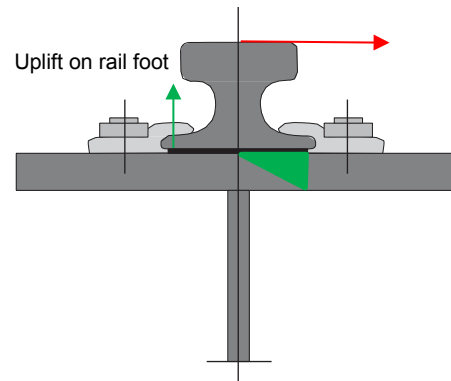

Figure 2 – Prying Forces on a Rail Clip
- Rail Clips - Generally rail clips are a proprietary supplied component. Clips have lateral adjustment for rail alignment, and can either have a bolted or weldable base. The selection of the base type depends on the application, but typically the welded bases have a higher lateral load capacity. For improved corrosion protection, the welded base can be welded to the steel base plate, and the component galvanised prior to installation. Clips spacing is selected to suit the lateral wheel loads and the strength of the rail to distribute the lateral load. Rail clips can be supplied with a rubber nosing which applies a controlled downward force to the foot of the rail which can assist with controlling movement of the rail while allowing the rail to expand and contract longitudinally. For load cases where there is a high lateral load and a small or zero downward vertical wheel load (eg, shiploader tied down during a cyclone wind event) the rail clip can be subject to high uplift forces caused by prying action as shown in Figure 2. Proprietary rail clips have